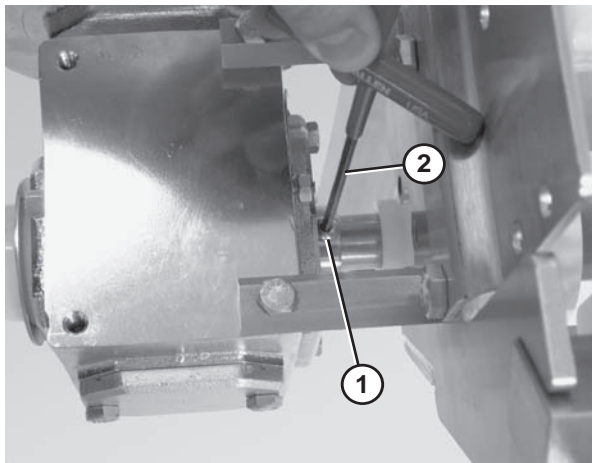

Figure 56
1. Loosen the fasteners (**Figure 56, item 1**) that connect the gearmotor to the drive spindle using a hex wrench (**Figure 56, item 2**).